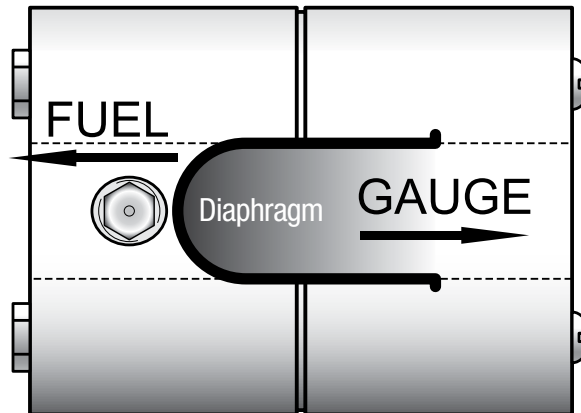

FIGURE 1
2. The diaphragm inside the fuel pressure regulator must be gently pushed in toward the fuel side (FIG. 1). You can use a tool or stick with a blunt end so you do not tear the diaphragm.